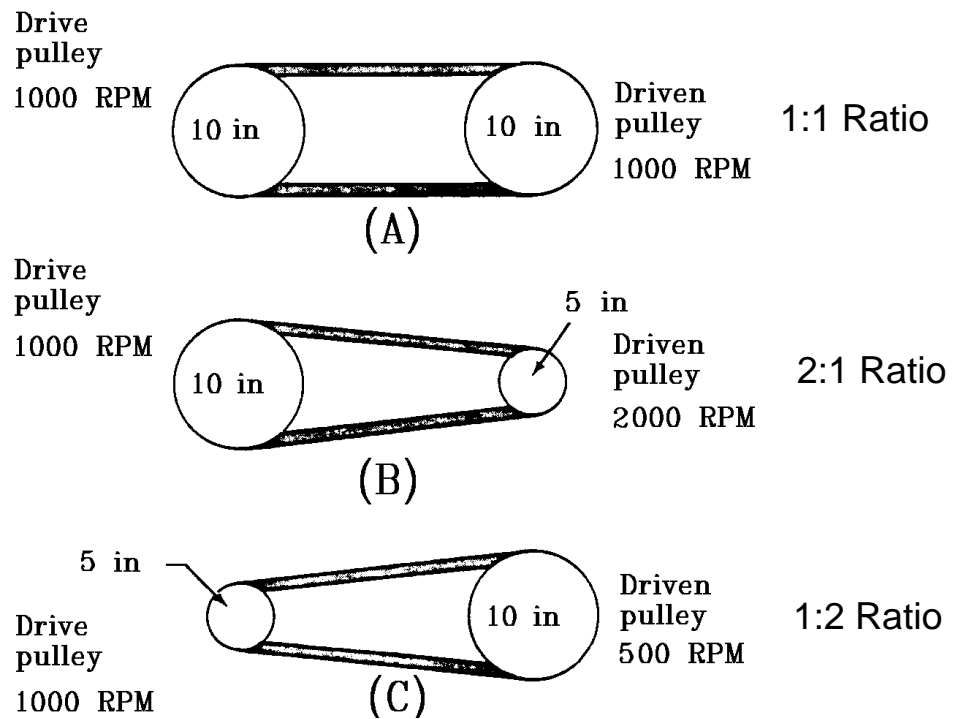

Figure 2-1
Figure 2-1 shows that when pulleys are of equal size (A), they turn at the same speed; when the driven pulley is smaller (B), its speed will be greater than that of the drive pulley; if the drive pulley is smaller (C), the speed of the driven pulley will be slower.